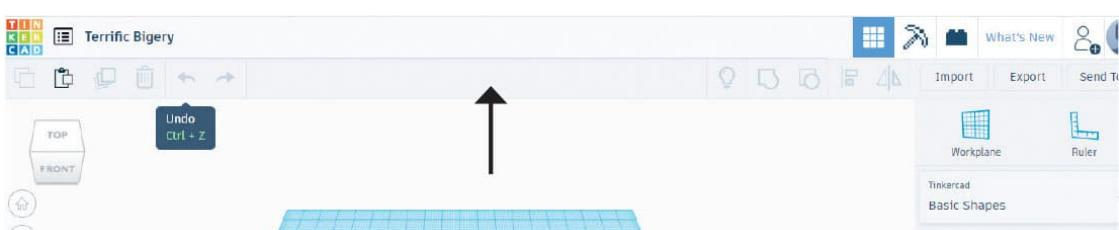

FIG. 2: The top ribbon has the file name and below that the **Copy**, **Paste**, **Duplicate**, **Delete**, **Undo**, and **Redo** buttons.
- The top ribbon directly under the file name has tools to **Copy**, **Paste**, **Duplicate**, **Delete**, **Undo**, and **Redo** work on the workplane. The arrow in fig. 2 identifies the top ribbon. Hover over a button to see its purpose.
- The right side of the top ribbon has more tools: **Group**, **Ungroup**, **Import**, **Export**, and others. See the right side of fig. 2.